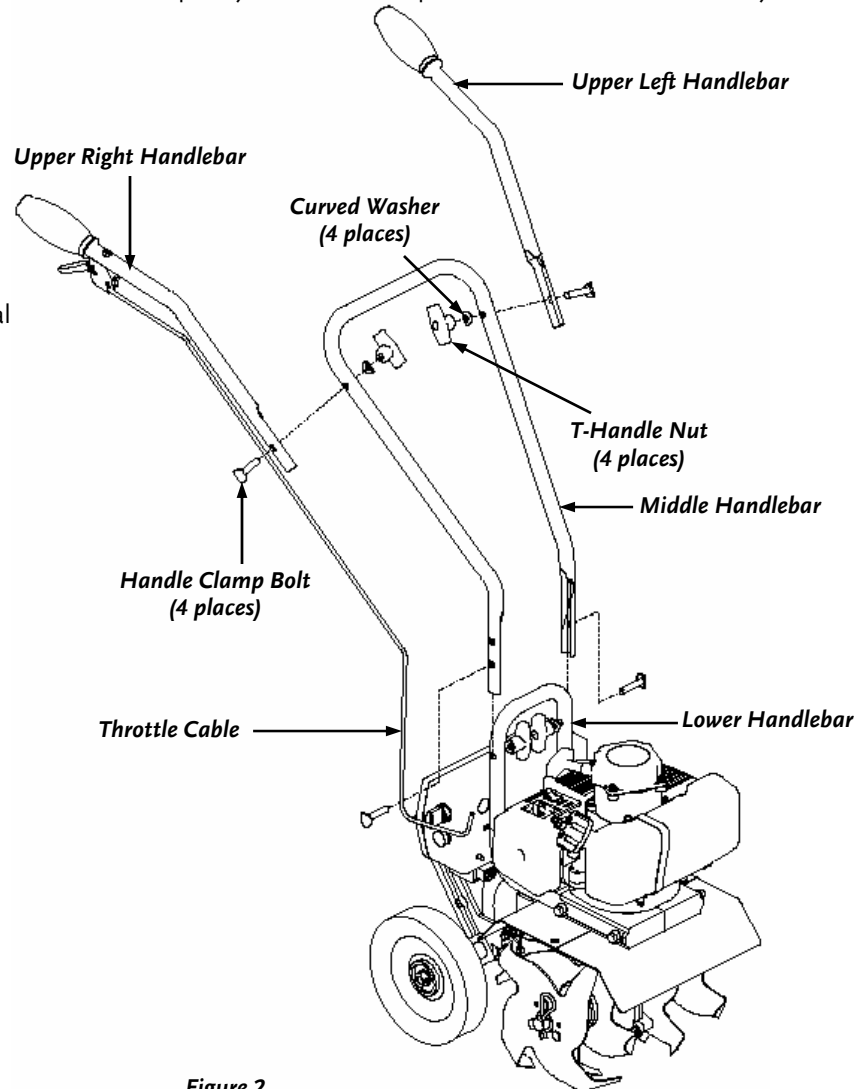

Figure 2
4. Using two (2) T-Handle Nuts, two (2) Handle Clamp Bolts and two (2) Curved Washers, assemble the Middle Handlebar to the Lower Handlebar already attached to the machine (**Figure 2**).
5. Attach the Upper Right and Left Handlebars to the Middle Handlebar using the remaining two (2) T-Handle Nuts, two (2) Handle Clamp Bolts, and two (2) Curved Washers (**Figure 2** on page 8). DO NOT over tighten the T-Handle Nuts.